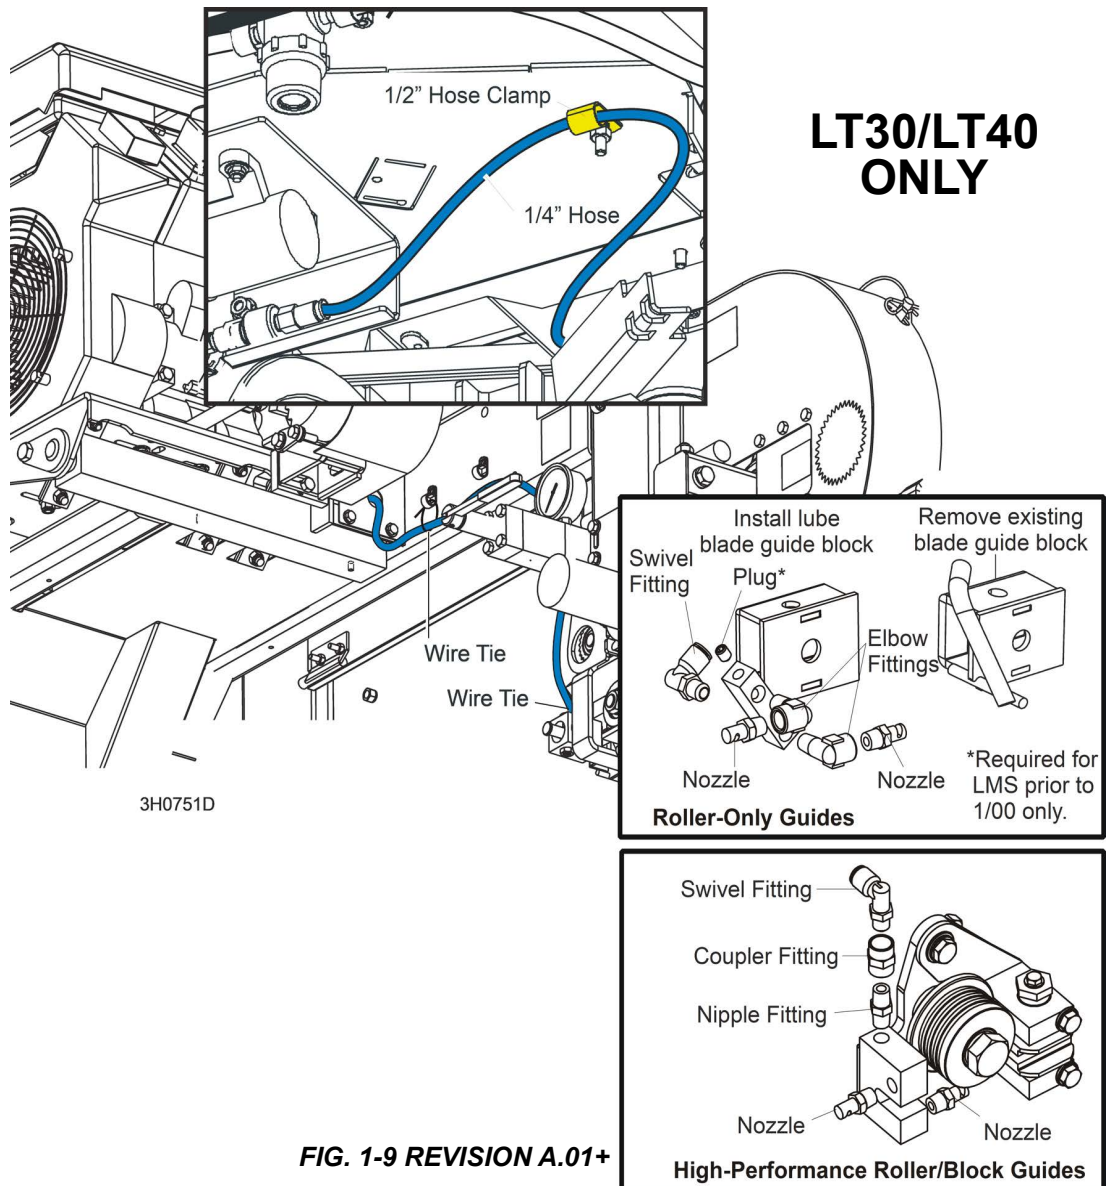

FIG. 1-9 REVISION A.01+
8. Locate the provided 1/4" hose. Insert one end to the pump valve as shown in FIG. 1-9.